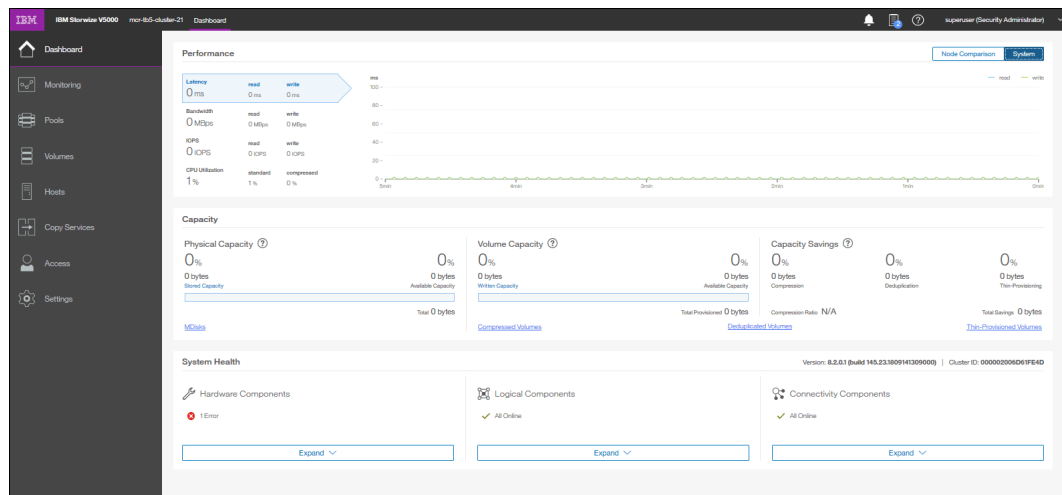

Figure 2-39 Landing page of management GUI
20. Click **Finish**, and the web browser is redirected to the landing page of management GUI as shown in Figure 2-39.